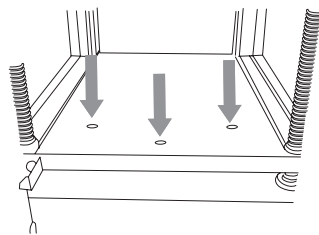

Fig. 15
- > On the bottom of the thickneser table there are 3 holes, these are the locating holes for the corresponding locating points on the extraction port assembly. (Fig. 15)